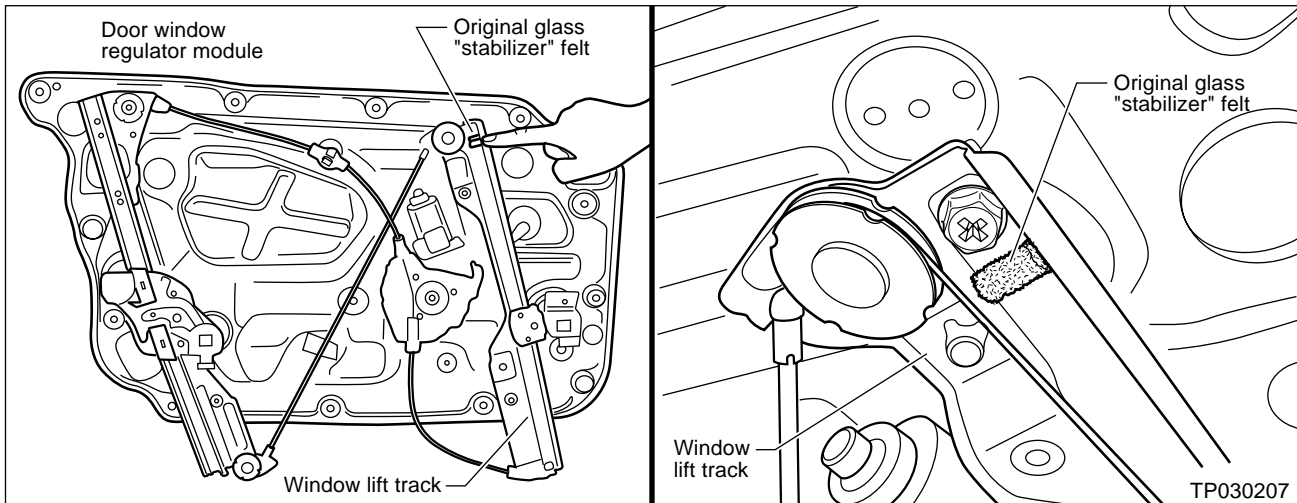

Figure 4
2. Locate and remove the original glass "stabilizer" felt (see Figure 4).